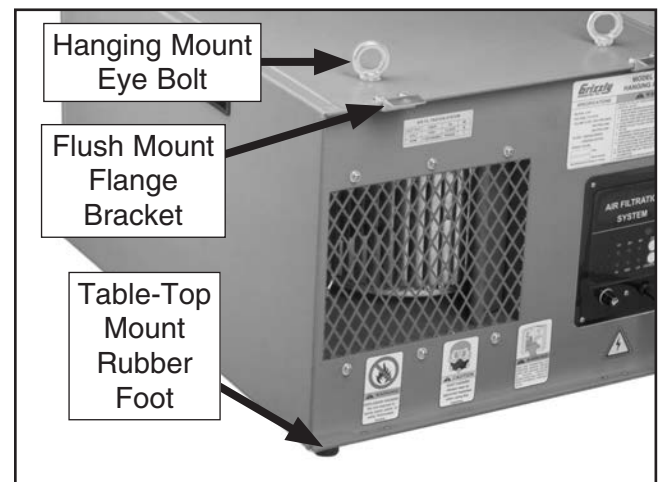

Figure 9. Air filter unit mounting options.
- **Table-Top Mount:** Use the rubber feet and/or the flush mount flange brackets (see **Figures 9 & 10**) for a table-top application. Refer to **Table-Top Mount** on **Page 18**.
- **Hanging Mount:** Use the eye bolts (see **Figures 9 & 10**) for a high ceiling application. Refer to **Hanging Mount** on **Page 18**.
- **Flush Mount:** Use the flush mount flange brackets (see **Figures 9 & 10**) for a wall or low ceiling application. Refer to **Flush Mount** on **Page 19**.